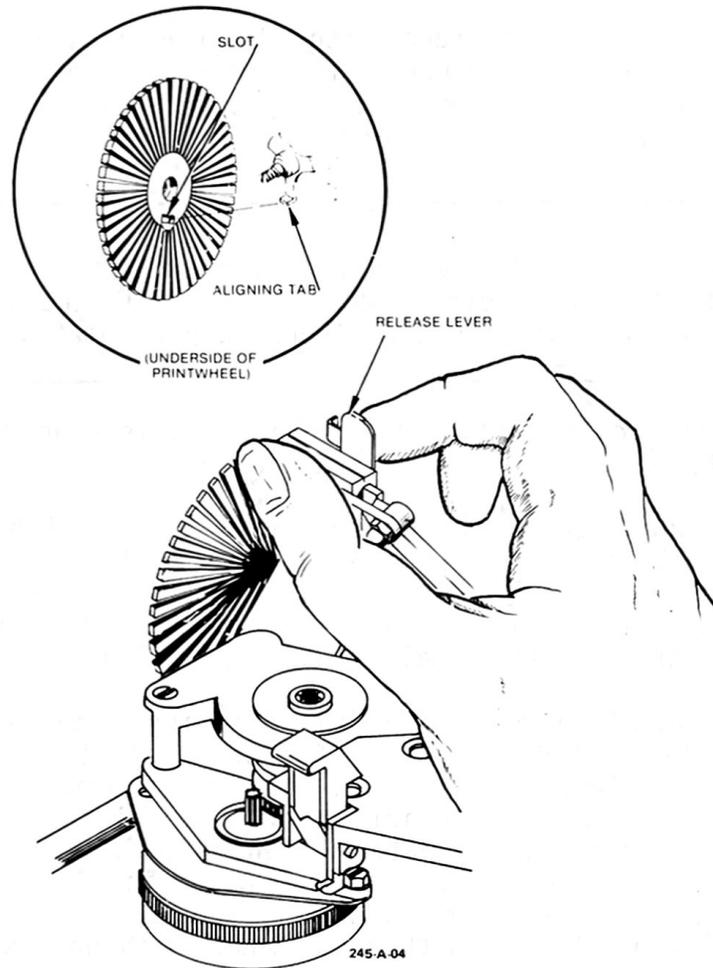

Figure 12. Changing a Printwheel
3. Squeeze the metallic release lever (see Figure 12, Changing a Printwheel) towards the left and gently tilt the printwheel assembly toward you as far as it will go. Do not pull on the hammer assembly.